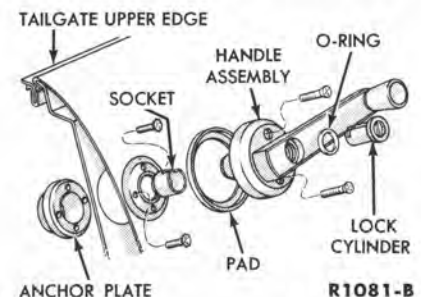

FIG. 31—1961-62 Tailgate Window Regulator Handle
1. With the tailgate window in the closed position, unlock the tailgate handle, and rotate the handle assembly to reveal the mounting screws (Fig. 31).
reposition the handle assembly so that it hangs in a vertical position, with the tailgate window in a closed position. To adjust the handle position, remove the snap ring and socket from the window regulator stem, and then install the socket with the notch at the top (Fig. 31).
6. Install the pad and handle assembly (Fig. 31).